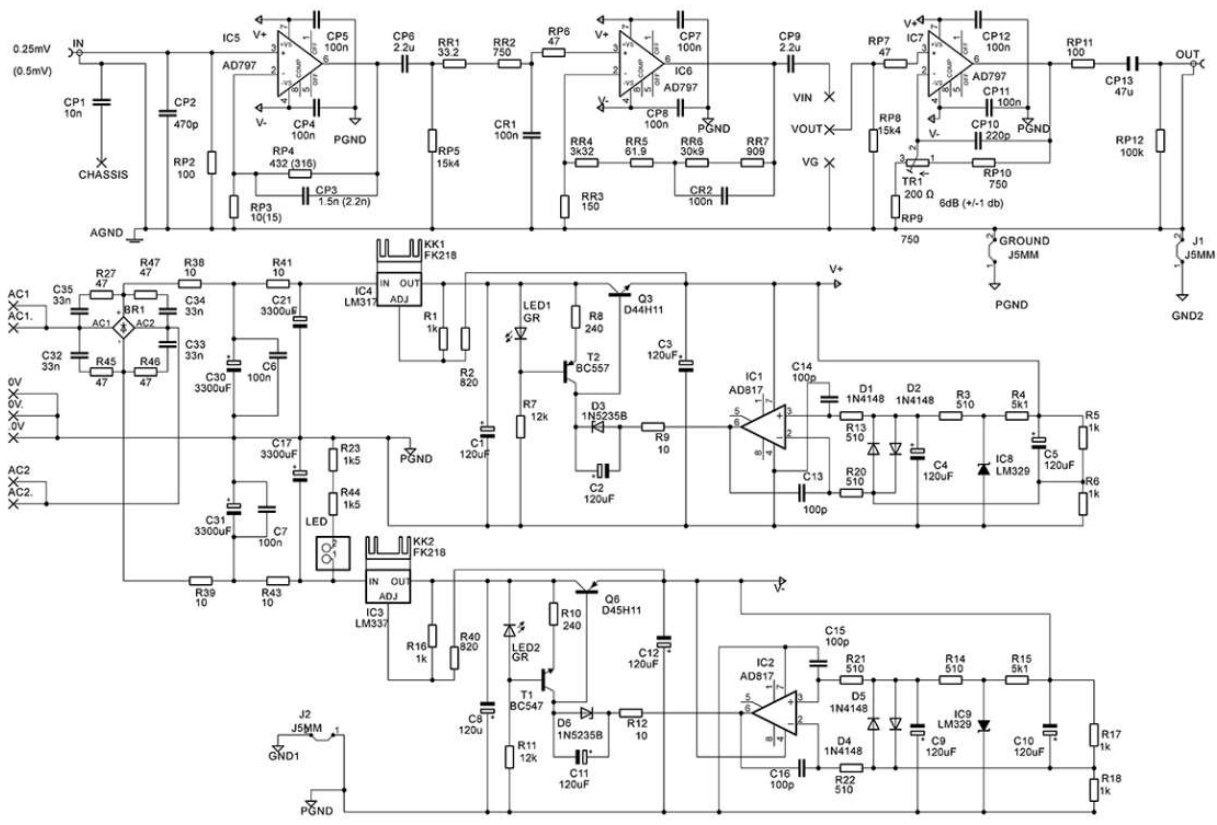

Figure 2: This is the MC100 preamplifier electronic diagram.
Figure 2 shows the amplifier's complete electronic schematic. The schematic only shows one channel; however, the other channel is identical. Capacitor CP1 is used to bypass the input ground to chassis. This is needed to suppress any radio frequency (RF) from entering the preamplifier through the input cable's shielding. Capacitor CP1 should have a good response in the RF spectrum, so I used a 10-nF, 50-V ceramic COG capacitor.